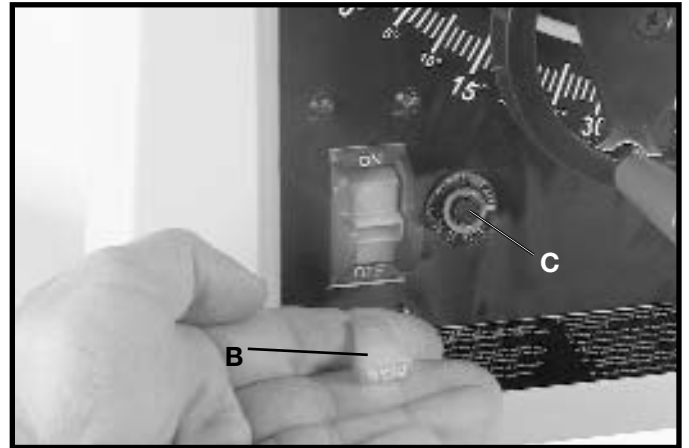

Fig. 28
IMPORTANT: When the tool is not in use, the switch should be locked in the “OFF” position to prevent unauthorized use. To lock the tool, grasp the switch toggle (B) and pull it out of the switch (Fig. 28). With the switch toggle (B) removed, the switch will not operate. However, should the switch toggle be removed while the saw is running, the machine can be turned “OFF,” but cannot be restarted without re-inserting the switch toggle (B).
Your saw is equipped with a reset button (C) Fig. 28. If the motor stops or fails to start due to over-loading (cutting stock too fast, using a dull blade, using the saw beyond its capacity, etc.) or low voltage, turn the switch to the “OFF” position. Let the motor cool three to five minutes. Push the reset button (C) to reset the overload device. The motor can then be started again in the usual manner.